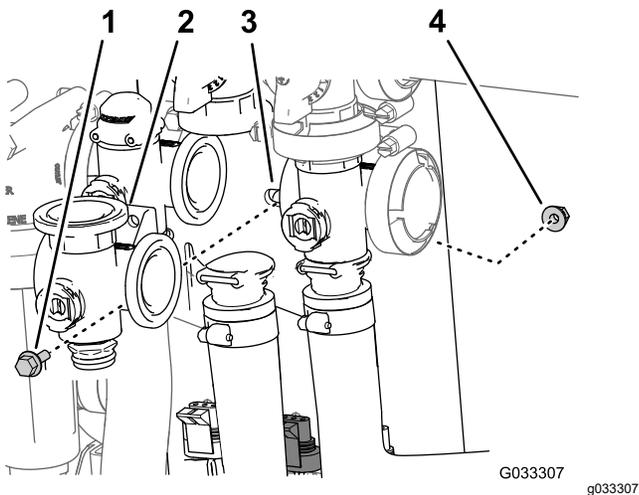

Figure 71
3. Remove the flanged-head bolt and flanged locknut that secures the agitation valve to the valve mount and remove the valve manifold from the machine (Figure 71).